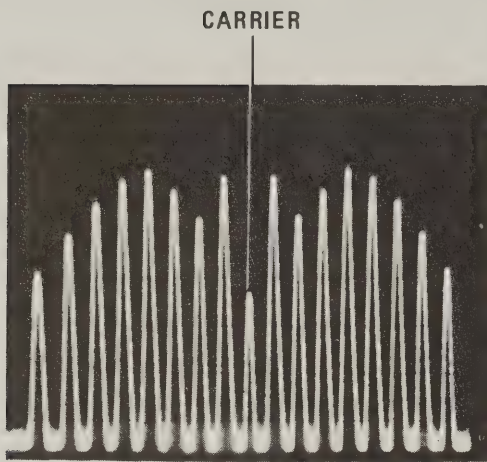

Figure 4-18. Spectrum Analyzer Display of Second Carrier-Null with 900 kHz Modulation Frequency
- l. Adjust spectrum analyzer to center RF carrier on display. Increase function generator amplitude while observing spectrum analyzer display. Sidebands will appear and carrier amplitude will start to decrease. Increase function generator amplitude through first carrier null and up to second carrier null as shown in Figure 4-18. This point is ± 5 MHz deviation.